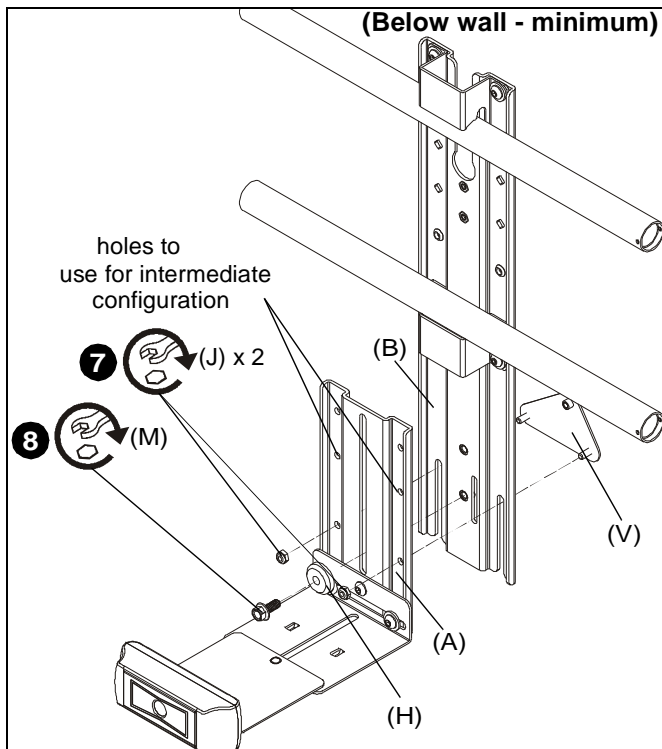

Figure 8
- (For **minimum/intermediate extension**) Use two #10-24 lock nuts (J) to secure upright bracket (A) to main bracket (B) and adapter plate (V). (See Figure 8)
- (For **minimum/intermediate extension**) Use 1/4-20 x 5/8" hex head flange bolt (M) and center washer (H) to secure upright bracket (A) to main bracket (B). (See Figure 8)